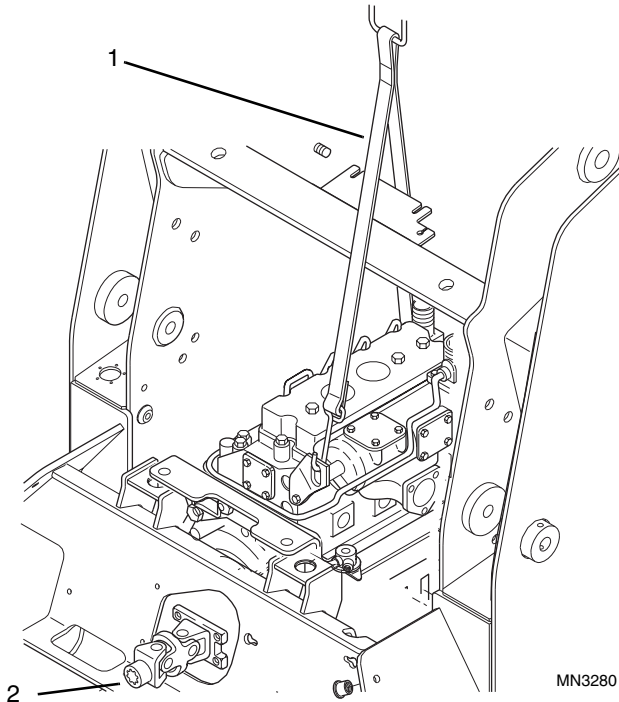

Figure 10-83 Engine Installation
5. Reconfigure the lifting equipment (Fig. 10-83, 1) to the front of the frame crossmember, and lift the engine. Guide the transmission drive assembly (2) onto the transmission input shaft as the engine is moved into its final position.